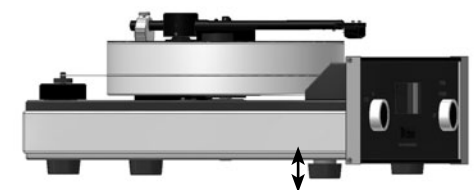

Figure 21
20. Locate the McIntosh Bubble Level and place it on the Turntable Platter Mat. If the Bubble is not in the center circle of the Bubble Level, adjust the height of the Turntable Feet (by rotating them clockwise or counter clockwise) until it is level. Refer to figure 21.